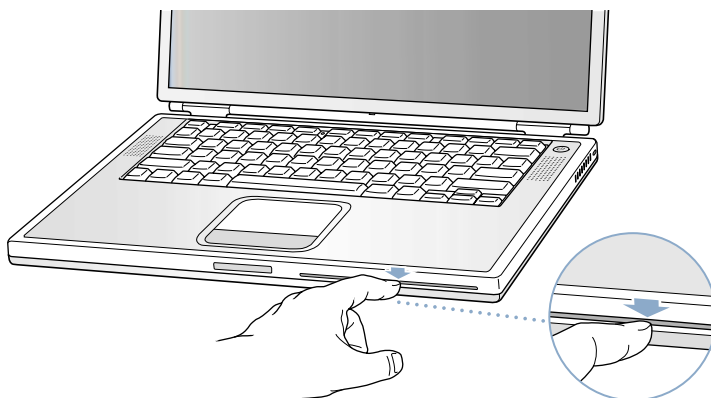

Figure 8
4. Turn the computer over. Look at the optical drive slot to make sure that the case is properly secured. If a gap exists below the slot, gently pull the bottom of the optical drive slot toward you until it clicks into place and the gap is removed (**Figure 8**).